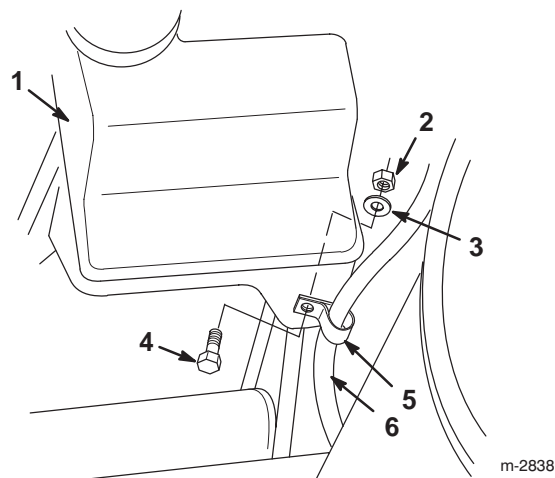

Figure 4
4. Remove the hex-head bolt, the flat washer, and the locknut, and remove the R-clamp from the starter wires (Fig. 4).
2. Install the R-clamp onto the new starter wires (Fig. 4).
3. Fasten the R-clamp and the attached wires to the fuel tank tab with the hex-head bolt, the flat washer, and the locknut (Fig. 4).